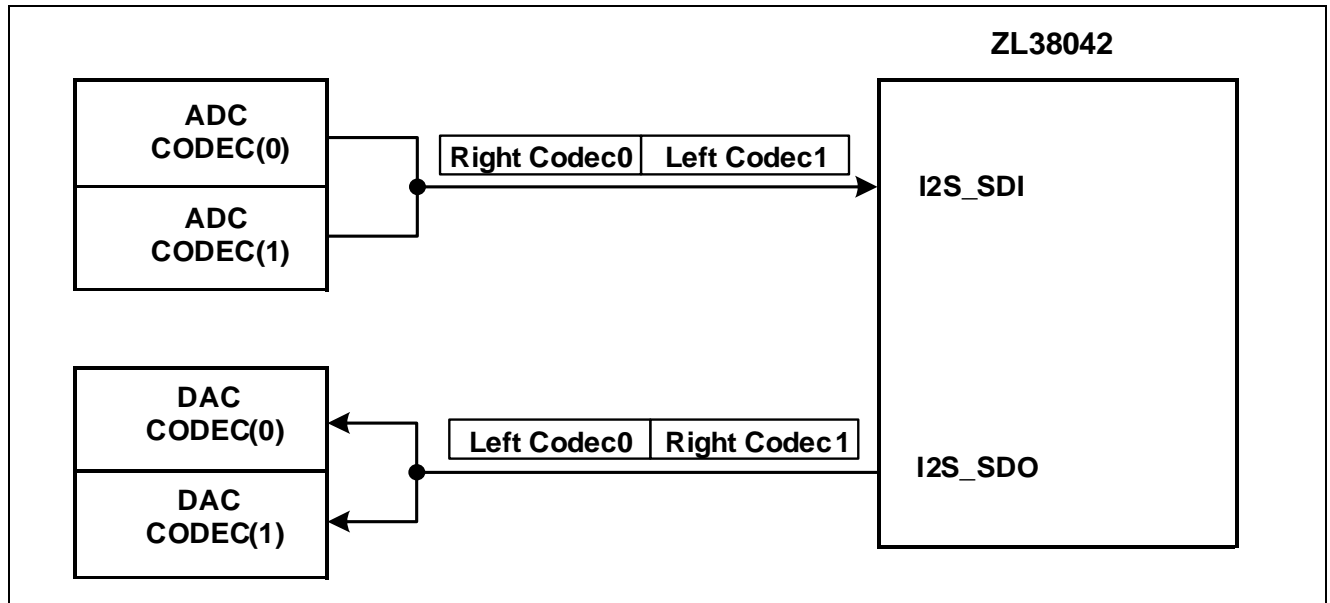

Figure 11 - Dual Codec Configuration
Each I²S interface can support one dual channel Codec (Figure 11). The four 16-bit channel processing capacity of the DSP is spread across the two input channels from the ADCs of Codec(0) and Codec(1), and the two output channels to the DACs of Codec(0) and Codec(1). See the *Microsemi AcuEdge™ Technology ZLS38042 Firmware Manual* for I²S port setup.